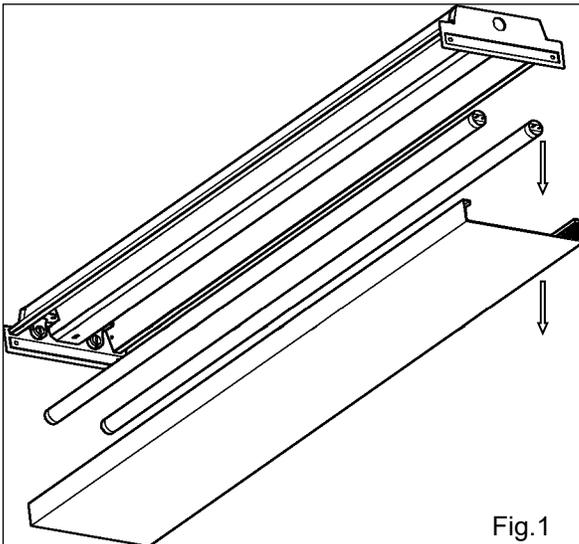

Fig. 1
3. Remove lens and lamps from luminaire (Fig.1).